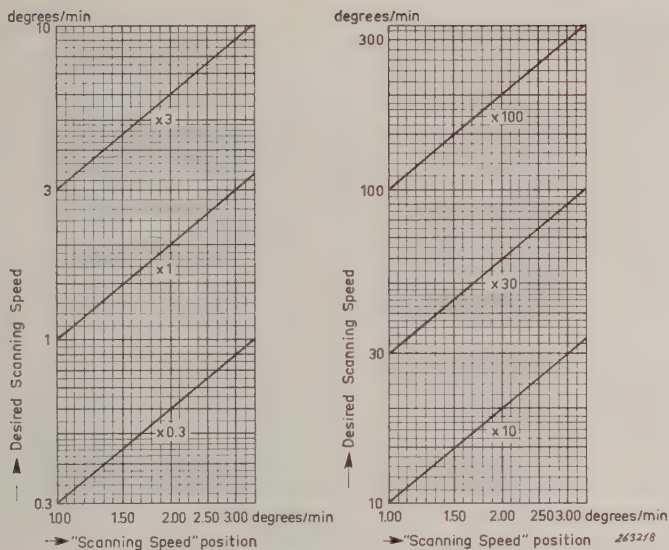
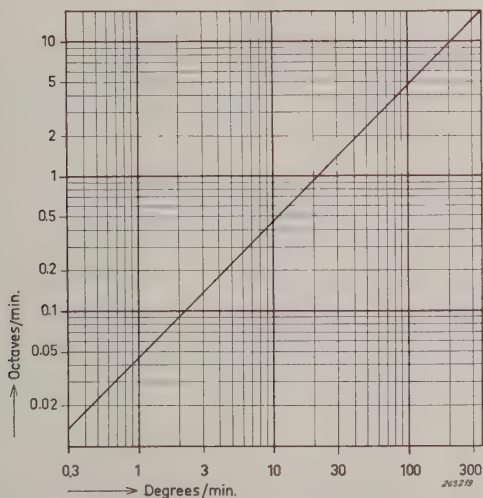

Fig. 4.4. Chart for easy determination of the "Scanning Speed Selector" and "Scanning Speed" setting.
Fig. 4.5. Chart for converting scanning speed in octaves/min. to scanning in degrees/min.
3. From the curves in Fig. 4.4 can be found the positions of SCANNING SPEED SELECTOR and SCANNING SPEED which give a speed nearest the calculated value S . From Fig. 4.5 is read the relationship between Octaves/min. and Degrees/min. for cases when the scanning speed is given in octaves/min.